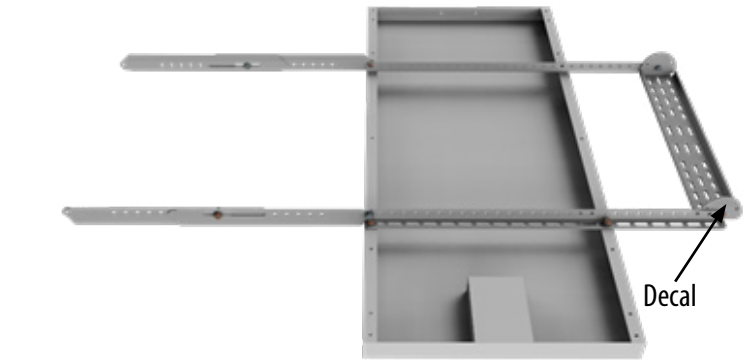

Figure 3
4. Locate the upper bracket with the angle decal on one end. Remove the nut, lock washer, and washer from each end of the bracket and orient the bracket as shown in Figure 3. Pass the bolts through the bracket and the last hole on each extended mount arm, and then replace the washer, lock washer, and nut on each bolt (see Figure 2).